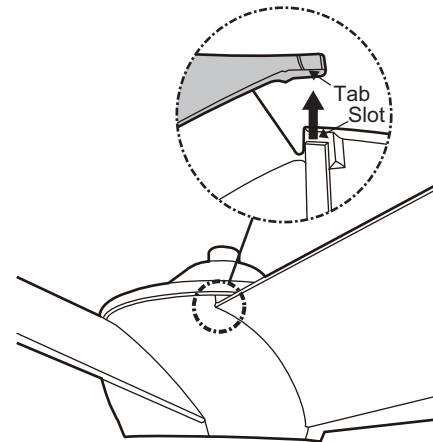

Fig. 15
Step 2 Installing the second blade assembly to the fan motor; lining up the slot of the blade assembly with the tab on the motor, Insert the tab in the second blade assembly to the slot on the top of first blade assembly (see the drawing circled in Fig. 15)